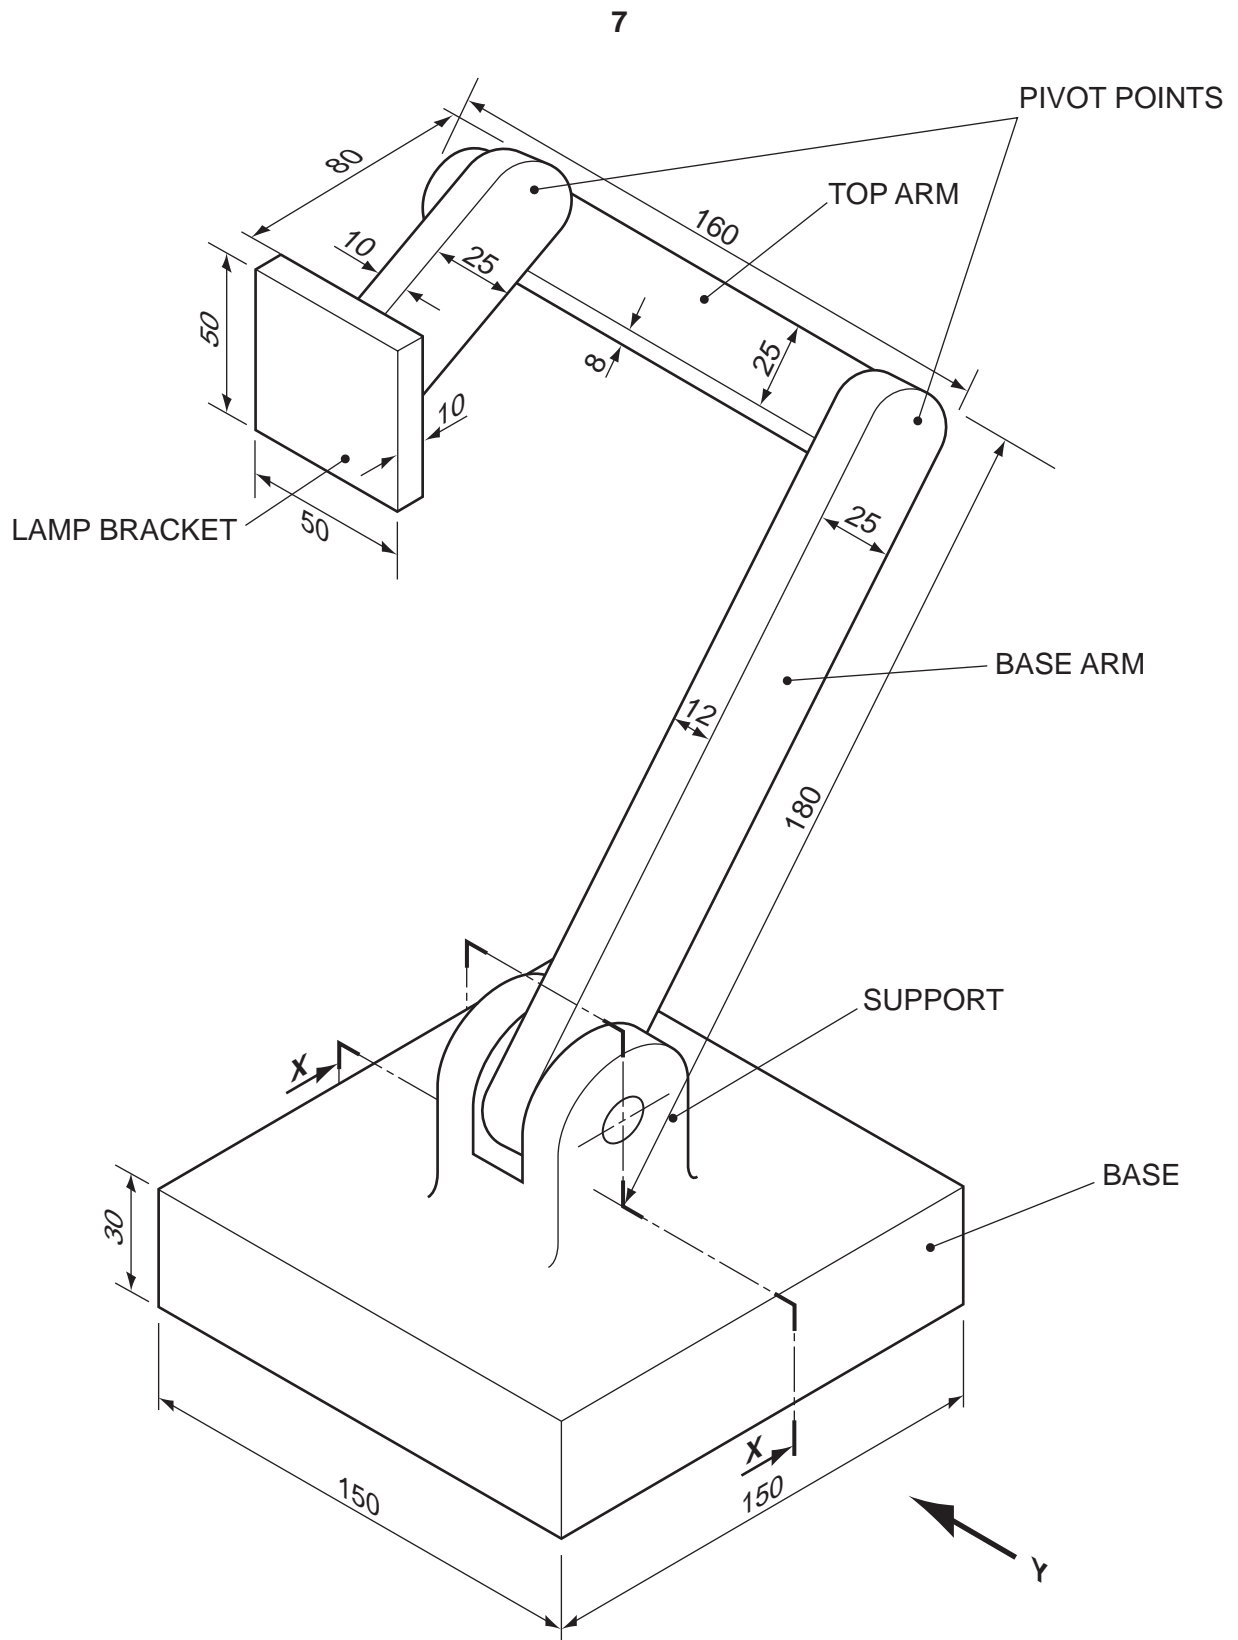

Fig. 7
Fig. 7 shows details of the base and arm of an adjustable desk lamp. Details of the lamp and shade have not been included. The base, including the support, is made from a single casting in aluminium.
- (a)** A method of locking the base arm to the support in the position shown in Fig. 7 so that it cannot be adjusted.